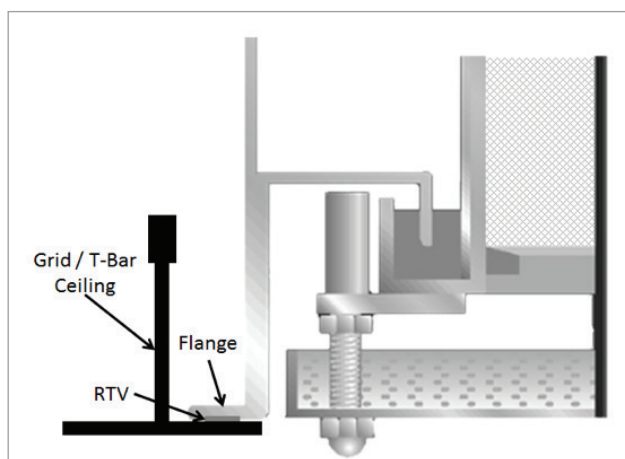

Fig 02: Flange Mount for Grid / T-Bar Ceiling
3. Center and lower the AstroHood unit into the opening and seat the unit onto the grid/T-bar. Apply uniform pressure to ensure the flange is bonded to the grid/T-bar (see Fig. 02).